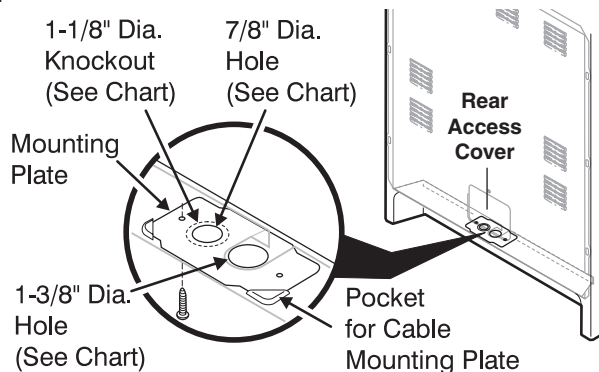

Fig. 9
See range connection opening size chart (Figs. 9 & 10) for cord kit ampere rating information. Terminals on end of wires must be either closed loop or open-end spade lugs with upturned ends.
The Rear Access Cover must be removed (Fig 9). To remove, loosen center screw (one screw) and remove cover. The terminal block will then be accessible.
NOTE: Range is shipped from factory with 1-3/8" dia. hole as shown. To use either 7/8" dia. hole or 1-1/8" dia. knockouts refer to Fig. 9.
- Follow the manufacturer's installation instructions supplied with the strain relief and install (Also see Figs. 9, 10 & 11).
- Make sure all screws are tightened securely and replace the rear access cover (See Fig. 9).
- Make sure all connections are tightened securely and replace the rear access cover (See Fig. 9).